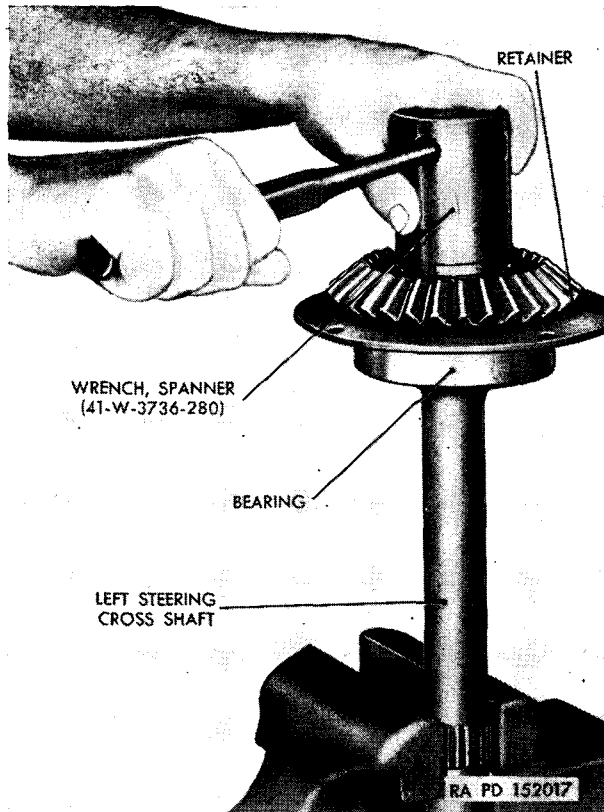

Figure 278. Removing or installing left steering cross-shaft lock nut.
- (1) Inspect the left steering cross-shaft and bearing assembly for defects in the gear, bearing or shaft. If disassembly is necessary, bend back the tab on the lock washer. Using spanner wrench (41-W-3736-280), remove the lock nut (fig. 278). Remove the tabbed lock washer, and the bevel-gear and bearing assembly. Press the gear out of the bearing and remove the bearing retainer.
- (2) Inspect the left steering cross-shaft bearing cage.
- (5) Install the gear and bearing assembly on the left steering cross-shaft. Install the tabbed lock washer and lock nut on the shaft. Tighten the nut with spanner wrench (41-W-3736-280) (fig. 278). Bend the tab of the lock washer over to secure the lock nut.